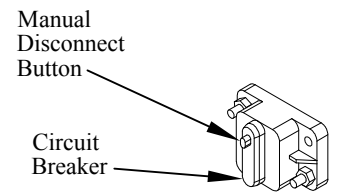

Figure 2: Circuit breaker.
3. **Disconnect** the liftgate power cable from the positive side of the battery or manually **Trip** the circuit breaker (Figure 2).